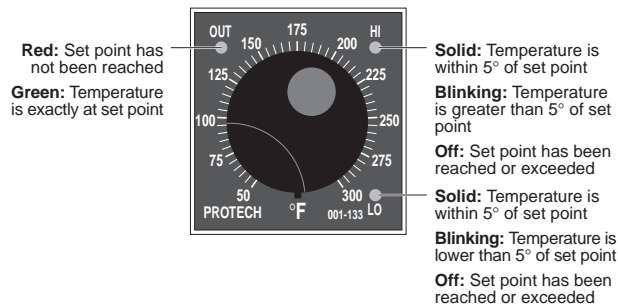

Figure 3-5: Heater Controller
4. The temperature controllers have LED (light emitting diode) readouts on the rotary dial to indicate the status of the heating system. See Figure 3-5 to learn about the readouts.